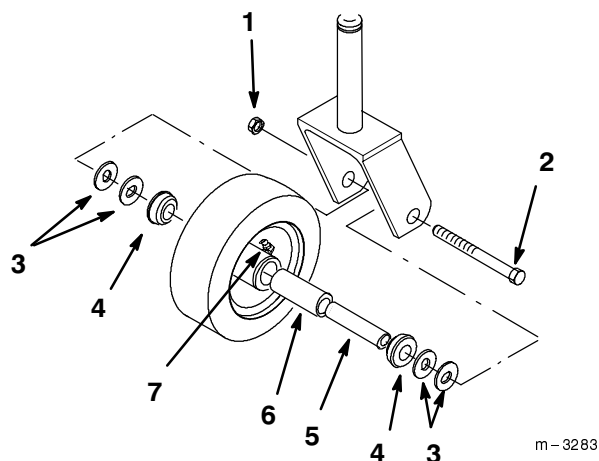

Figure 72
1. Remove the locknut and wheel bolt holding the castor wheel to the castor fork (Fig. 72).
2. Remove the washer and bushing, then pull the spanner bushing and roller bearing out of the wheel hub (Fig. 72).
3. Remove the other bushing from the wheel hub and clean any grease and dirt from the wheel hub (Fig. 72).
4. Inspect the roller bearing, bushings, spanner bushing and inside of the wheel hub for wear. Replace any defective or worn parts (Fig. 72).
5. To assemble, place one (1) bushing into the wheel hub. Grease the roller bearing and spanner bushing and slide them into the wheel hub. Place the second bushing into the wheel hub (Fig. 72).
6. Install the castor wheel into the castor fork and secure with the wheel bolt and locknut. Tighten the locknut until the spanner bushing bottoms against the inside of the castor forks (Fig. 72).